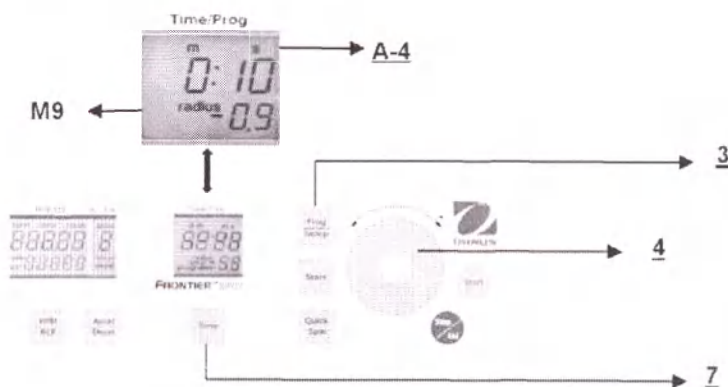

Figure. 19
Close the lid, then press the key **"Time"** (7) (refer to figure 19) and the key **"Prog/Setup"** (3) at the same